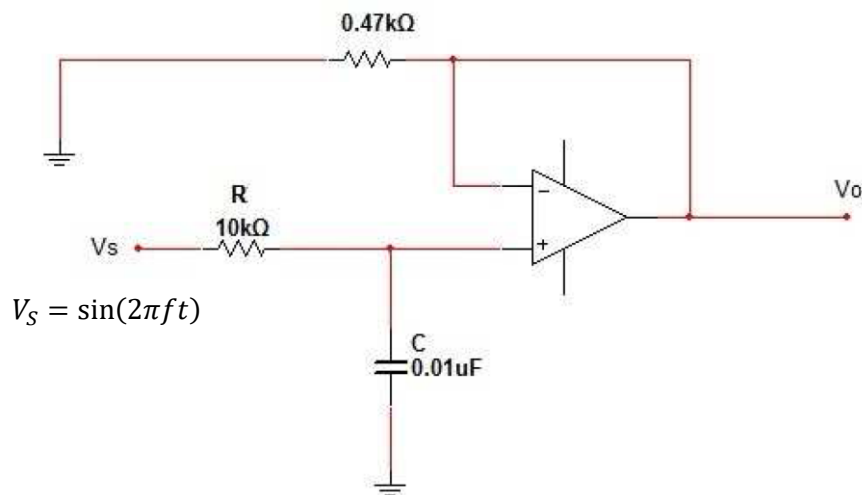

Figure 4.1
- Connect the circuit shown in figure 4.1.